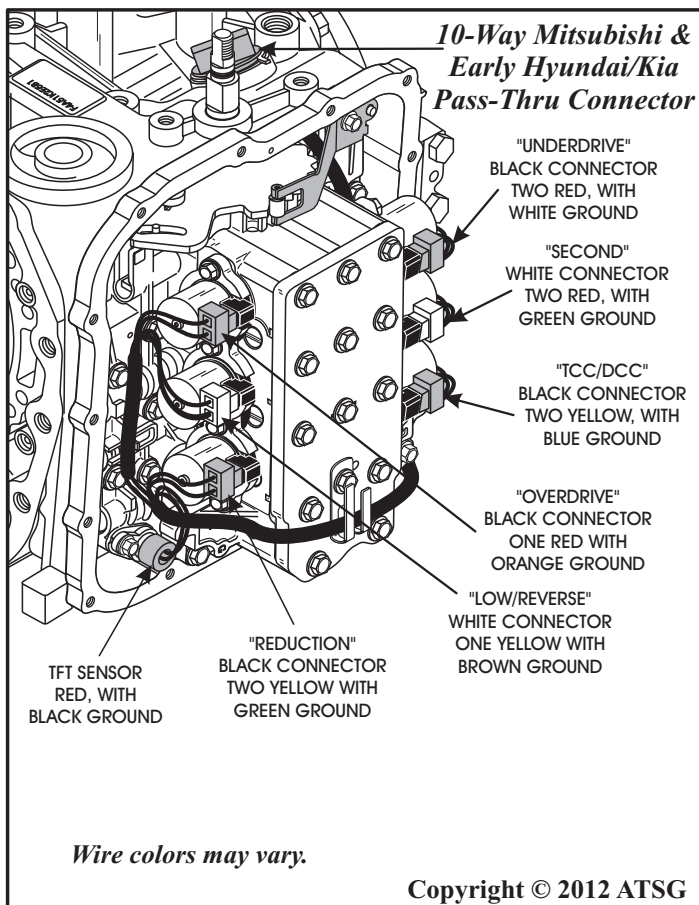
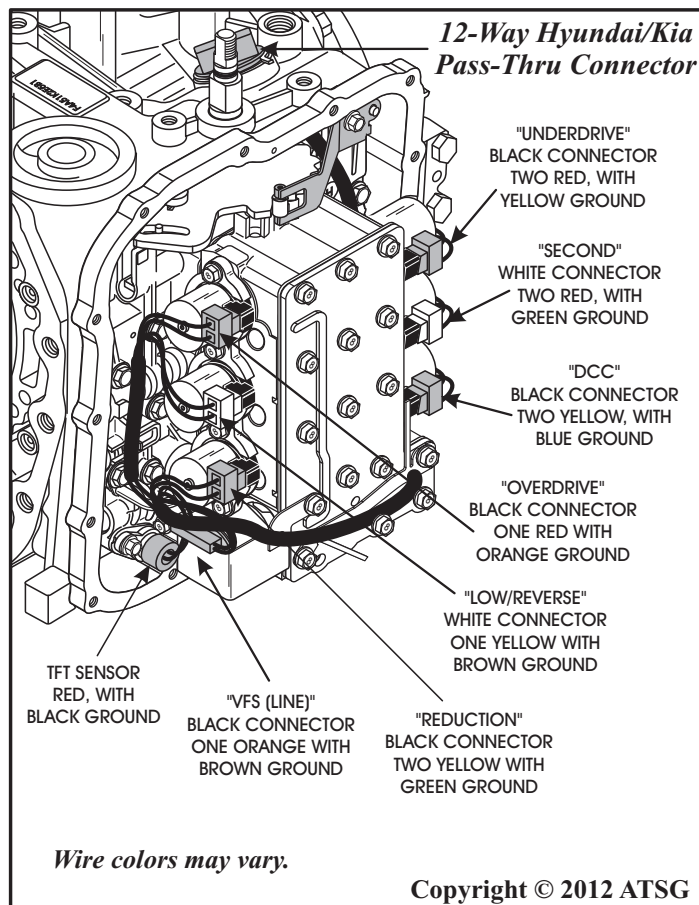

Figure 314
Figure 315
143. Connect the internal harness connectors to the individual solenoids, and connect the temp sensor, as shown in Figure 314 and 315.
- Note:** The colors shown in Figure 314 were observed colors on Mitsubishi models. The colors shown in Figure 315 were observed colors on late style Hyundai and Kia models.